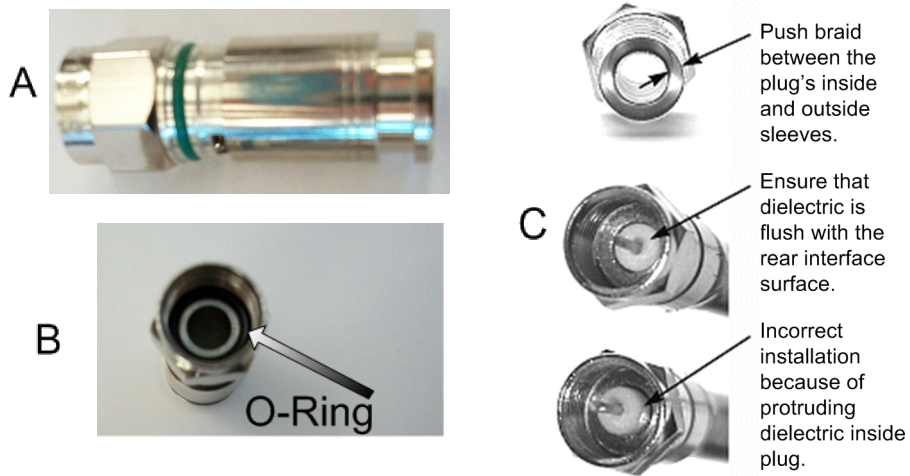

Figure C-4. Attaching the Compression fitting F-type Connector
- Install the RG-6 connector compression sleeve, or mandrel, (top left (A) in Figure C-4) over foil and underneath the braid. A good, weatherproof outdoor connector mandrel
should have a visible O-Ring (bottom right (B) Figure C-4).
NOTE: The white colored inner dielectric insulation should be flush with the inner rear surface of the connector. Refer to the picture on the right (C) in Figure C-4 for an RG-6/RG-11 termination.
NOTE: Since the RG-11 connector has a built-in center pin, ensure that the coax center pin makes contact to the internal seizing pin of the connector. Refer to Figure C-4.